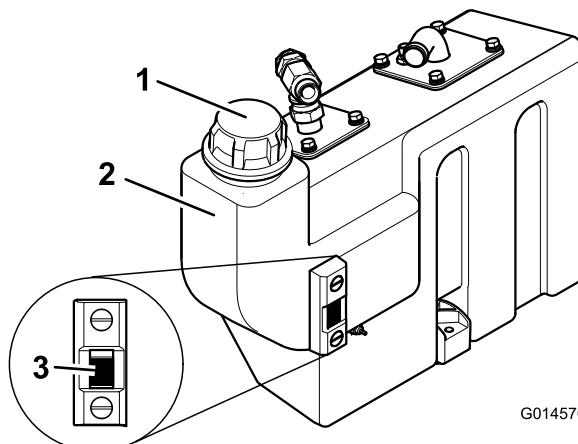

Figure 26
3. If additional hydraulic fluid is needed, clean the area around the filler neck and the cap of the hydraulic tank (Figure 26) and remove the cap.